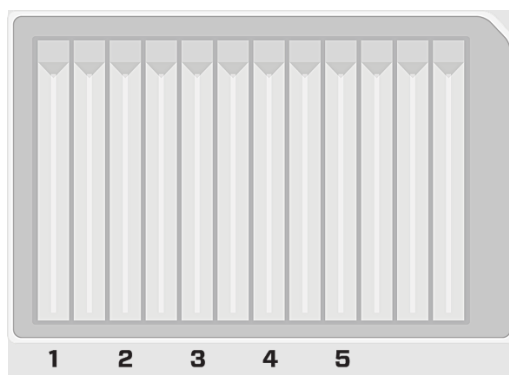

Figure 2. Reservoir column labels
1. Label a 12-channel reservoir as shown in **Figure 2** skipping every other column to prevent purification buffer cross-contamination.